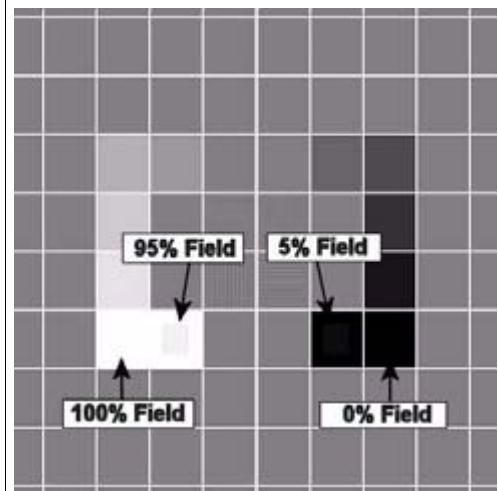

Fig. 19: MEMOSKOP SMPTE test pattern
- The image geometry must correspond to the illustration \(Fig. 19 / p. 34\).